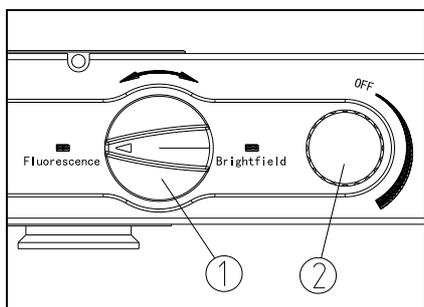

Fig 35
5. LED fluorescence filter block adjustment knob ① can be rotated in 180 degrees according to the arrow pointed, to switch between the transmission bright field and the LED fluorescence. “Flourescence” means flourescence observation, and “Brightfield” means bright field observation. (See Fig. 35)
6. Illumination: rotate the light adjustment knob ② in clockwise, turn on the LED fluorescence lamp when a sound of “DiDa” is heard, and rotate it in clockwise to make the LED brighter. Rotate the light adjustment knob ② in counterclockwise to make the LED darker, and turn off it until a sound of “DiDa” is heard (See Fig. 35)